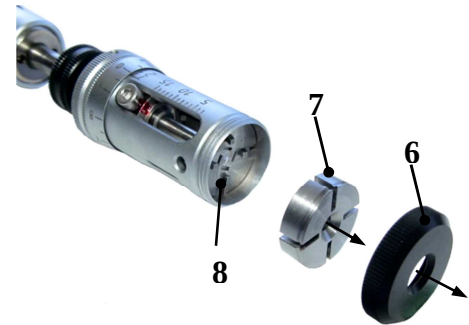

Fig. 11 Removing cap and cover
- Unscrew the end cap (6) and carefully pull out the cover plate (7). The four stripping blades (8) will now be visible. (Fig. 11)